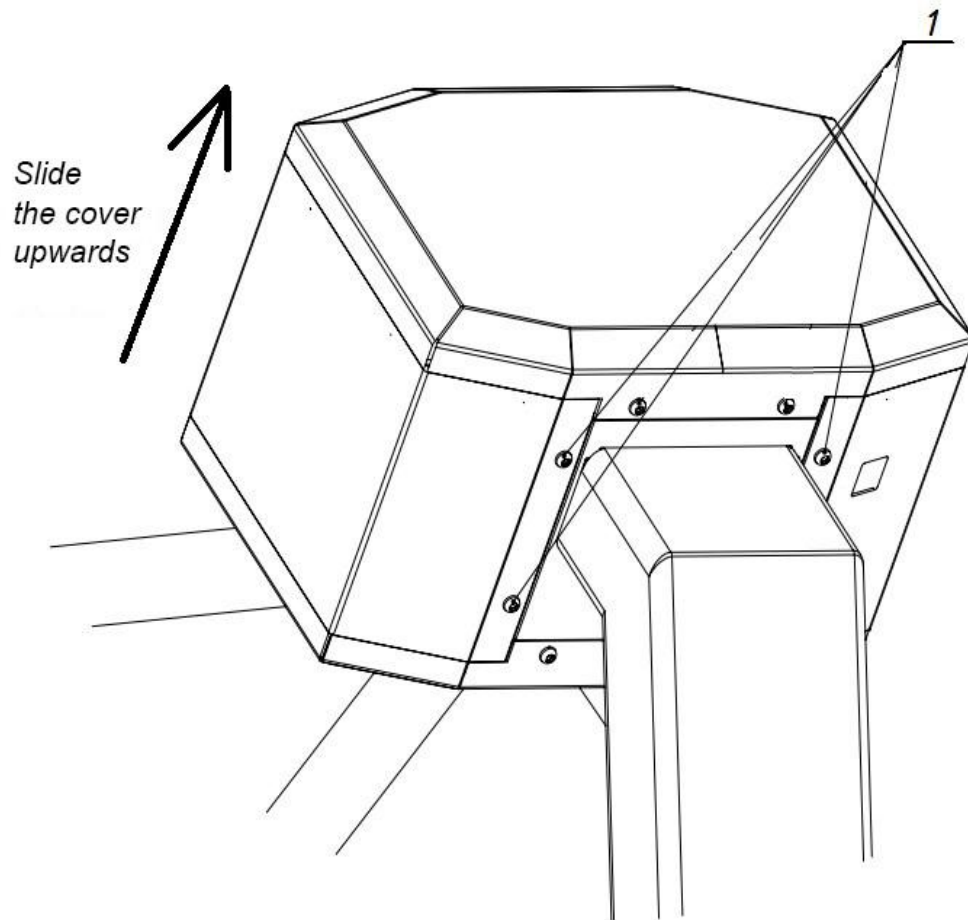

Figure 6 – Dismounting of the safety cover
Figure 6 – unscrew the four screws (1) gently slide the enclosure upwards (in the direction of the arrow), taking care not to break the cables inside the protective enclosure.